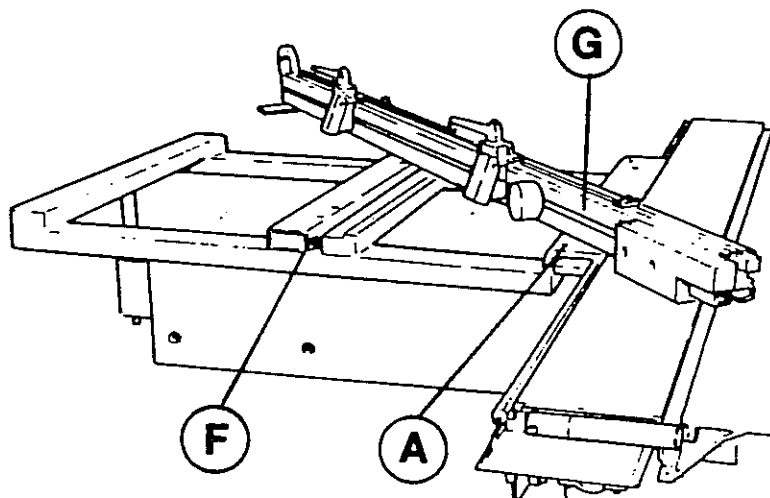

Fig.45
To obtain intermediate positions fit pivot of fence (G fig.45) into hole (A) then fit the other pivot into slot (F); now set the fence in the right position reading the angle on the proper plate.